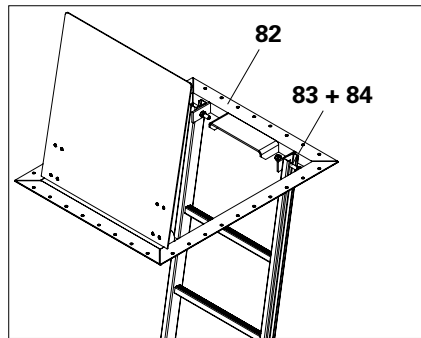

Fig. B5.11
1. Lift ladder using the crane. Lower ladder through hatch opening (82).
2. Fix ladder to the hatch from above using 2x bolts M12 x 40 and nuts (83 + 84). (Fig. B5.11)